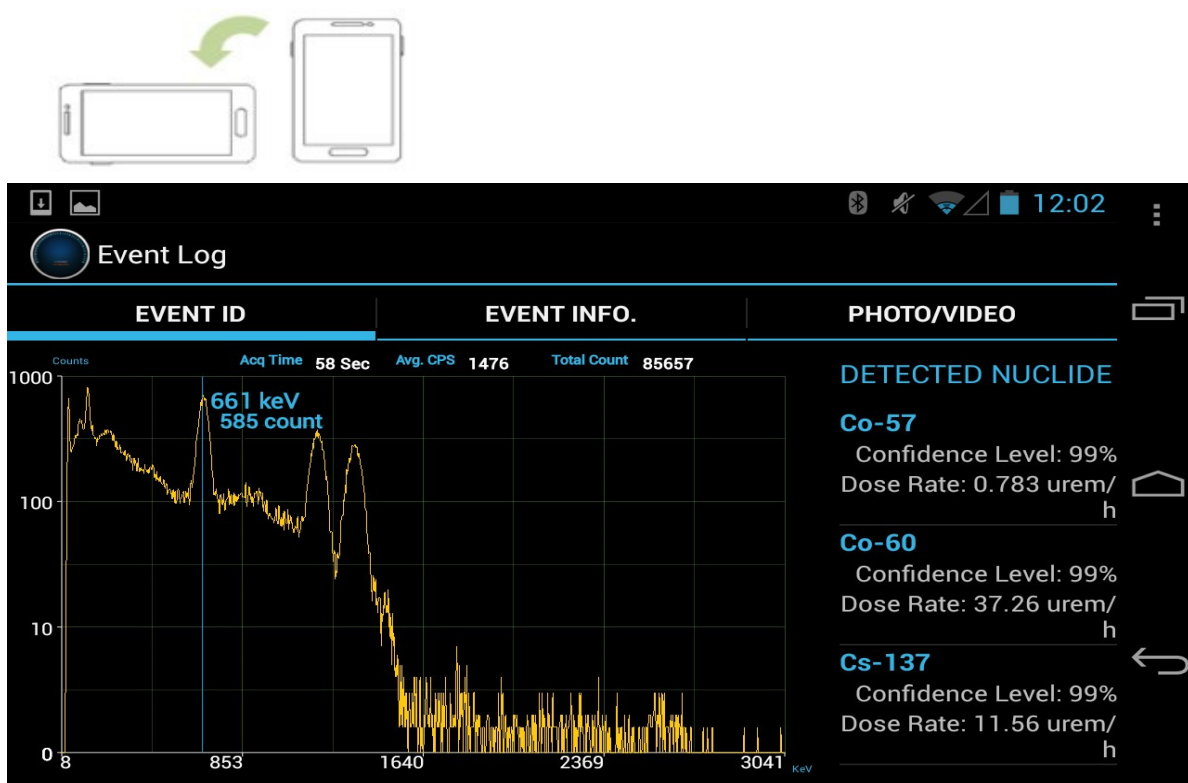

Figure 4.20. Event Analysis screen
2. Rotate the smartphone 90° **counter-clockwise** (Figure 4.20) to display the Event Analysis screen